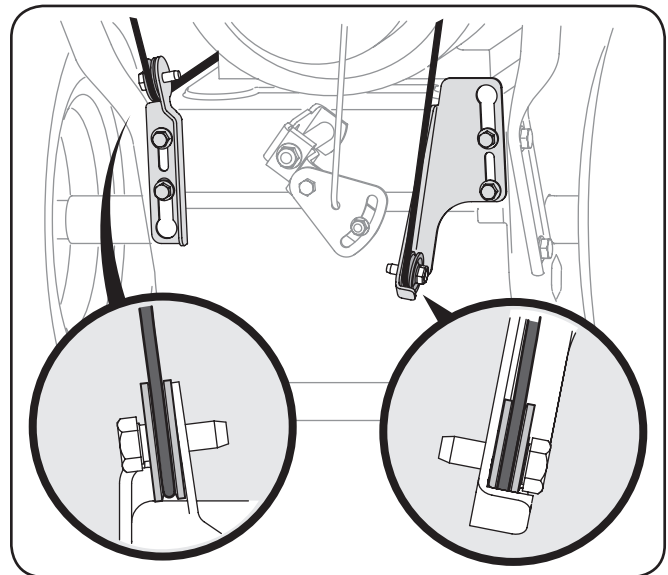

Figure 3-2
**NOTE:** Make certain the cables are seated properly in the roller guides. See Figure 3-2.